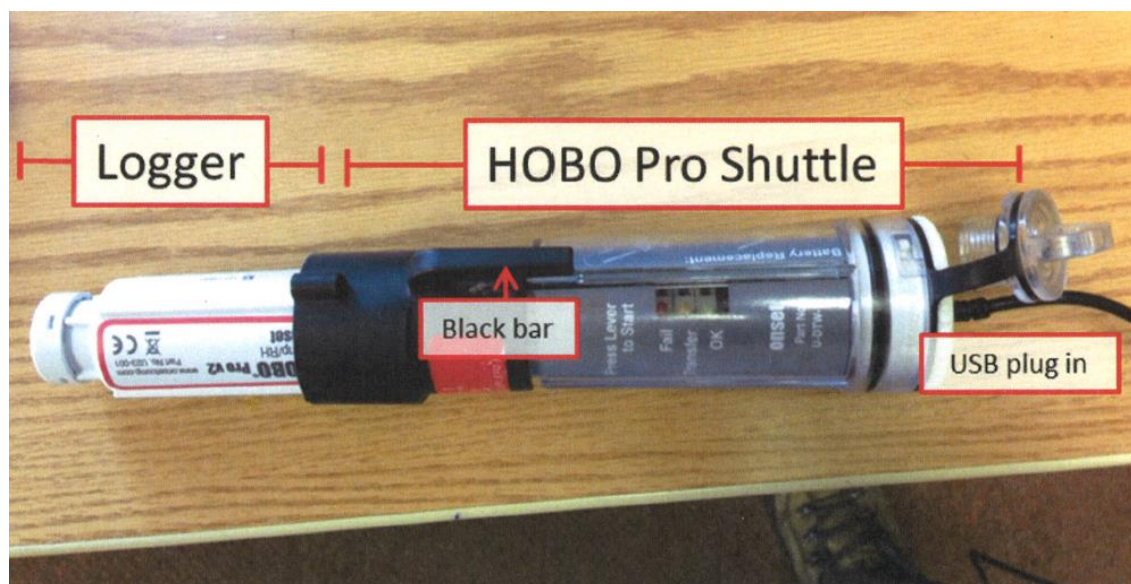

Figure 5-4. HOBO Pro data logger and shuttle.
- a. Plug in HOBOWare Pro v2 shuttle via the USB port and connect your first data logger (Figure 5-4). The logger's thicker end has relief on the bottom rim that lines up with the black indent on the shuttle. Connect the logger to the shuttle and firmly press the black magnetic bar found above the lighting cues. The light on the shuttle should first indicate yellow, then transition to green. Watch for the logger identification number to appear in the bottom left corner of the HOBOWare window.